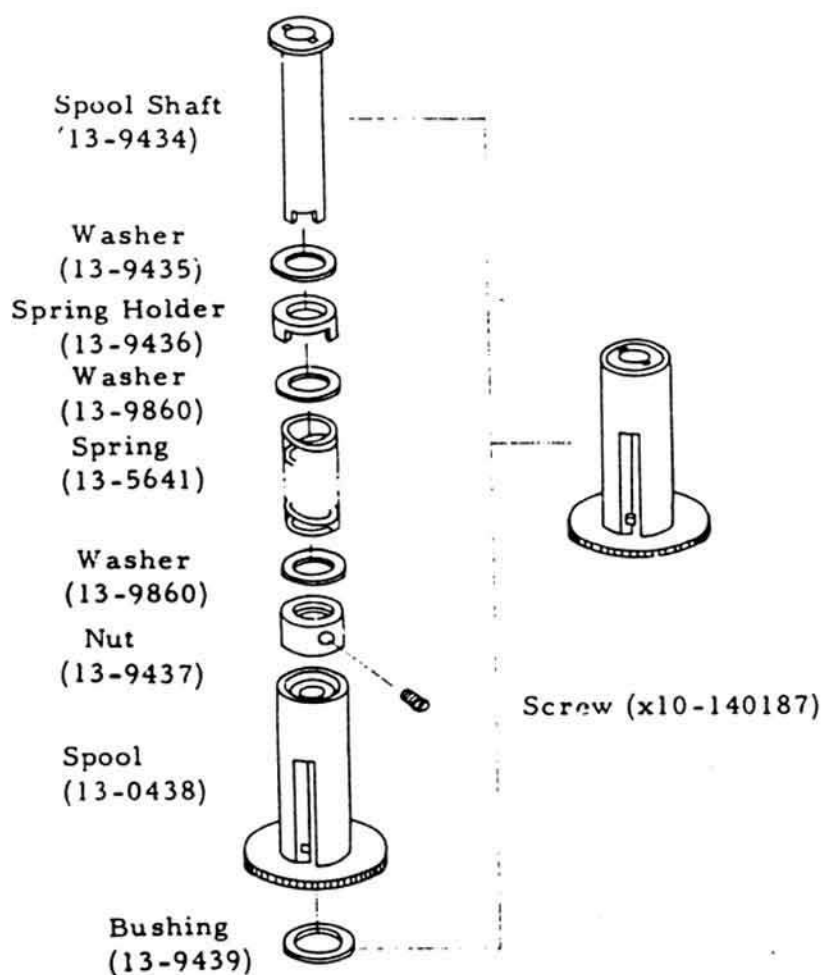

Fig. 7
- 1) Install each part in the order shown in Fig. 7.